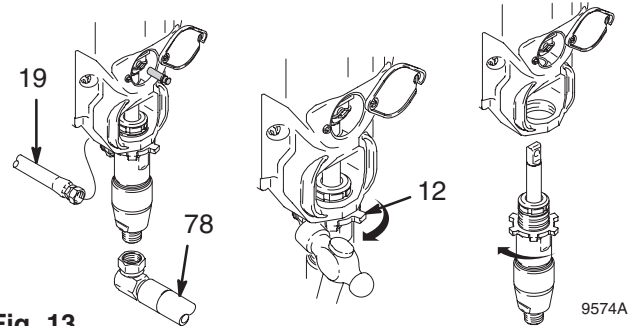

Fig. 13 9574A
5. Fig. 13. Remove suction tube (78) and hose (19).
6. Loosen pump jam nut (12). Unscrew pump.
5. Fig. 13. Install suction tube (78) and hose (19).